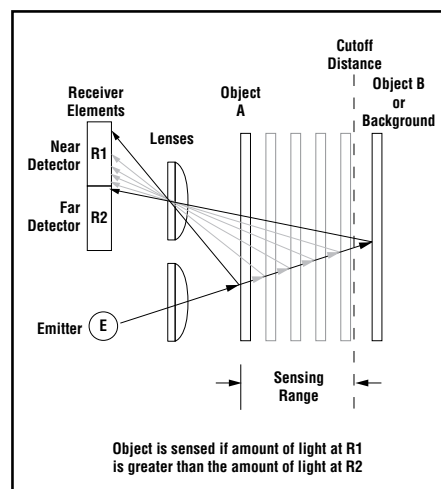

Figure 1. Fixed-field concept
The S30FF compares the reflections of its emitted light beam (E) from an object back to the sensor's two differently aimed detectors, R1 and R2 (see Figure 1). If the near detector (R1) light signal is stronger than the far detector (R2) light signal (see object A, closer than the cutoff distance), the sensor responds to the object. If the far detector (R2) light signal is stronger than the near detector (R1) light signal (see object B, beyond the cutoff distance), the sensor ignores the object.